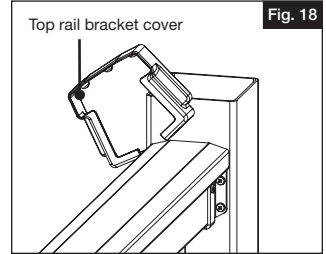

Fig. 18
- c. Open the top rail bracket cover to allow it to wrap around the top rail (Fig 18). While open, make sure the "tab" fits behind the rail and against the post.